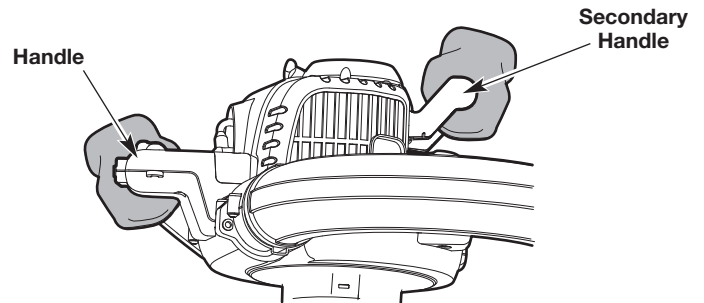

Fig. 15
- Hold the handle firmly with the right hand (Fig. 15). Hold the secondary handle firmly with the left hand (Fig. 15).